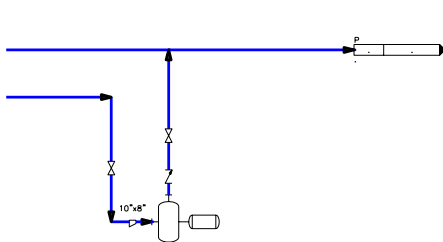

Figure 2-77 Off page connector placed at the endpoint of the pump outlet line
2. Place the off page connector at the endpoint of the line connecting the pumps, as shown in Figure 2-77.